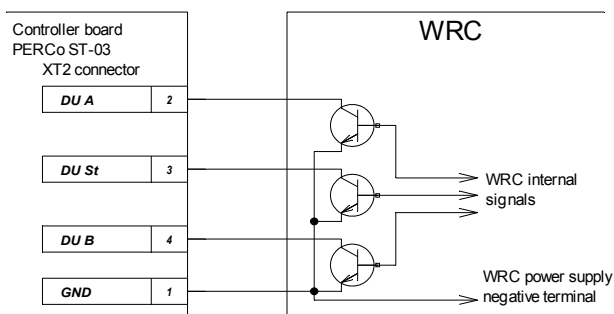

**Figure 3 — PERCo-CT03 controller board**
5.2.4 The remote control panel is designed as a small desktop device with a shockproof ABS plastic case intended for setting and indication of the operating modes when KT-02.3 is operated manually. The RC panel is connected to the PERCo-CT03 board with a multi-core flexible cable (10) via the "XT2" connector block (ref. Figure 3).
The three control buttons with above indicators on the RC front panel are for setting KT-02.3 operating modes. The middle button (hereinafter – the STOP button) is for setting the "Always locked" mode. The left and right buttons are for unlocking the passage in authorized direction. If KT-02.3 installation is not standard (e.g. the guard box is placed behind rather than in front of KT-02.3), the RC panel orientation towards KT-02.3 can be changed by swapping the RC panel wires to the contacts DUA and DUB as well as to the contacts Led A and Led B respectively (Ref. Figure 3 and A.1. Appendix A).
5.2.5 The PERCo-CT03 control board (Figure 3) houses:
5.3.2 The stand-alone devices indicated in section 5.3.1 are connected to the respective connector blocks “XT2” and “XT4” on the PERCo-CT03 controller board (Figure 3) with cables (10) and (12) according to the connection layout (Figure A.1, Appendix A).
5.3.7 Symbols of the connector blocks on the PERCo-CT03 board and designation of their contacts are shown in Figure 3 and a label similar to Figure A.1, Appendix A, placed on the top cover(3) inside (refer to section 6.1 for how to remove the top cover).
5.7.3 The intrusion detector is connected to the connector block "XT1", while siren to the connector block "XT7" on the PERCo-CT03 board (location of the connector blocks is shown in Figure 3).
5.8.1 The board of the inbuilt controller houses the **connector XP1** (Figure 3), designated for selection of the mode the system operates (manual or dynamic IP-address assignment) and reset to default settings (with password reset). The above actions are made by installing the jumper included in the standard delivery set.
- return the top cover in its operative position (3).
5.8.6 The inbuilt controller board of the KT-02.3 houses as well **connectors XP3.1 – XP3.3** (Figure 3). These connectors are not used in this delivery. It is forbidden to install jumpers on these connectors.